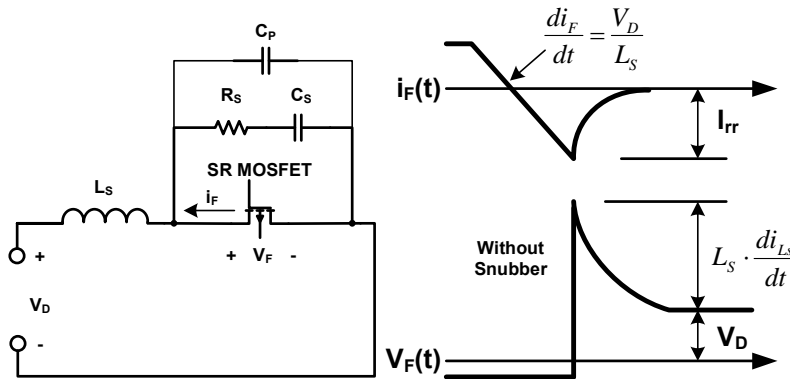
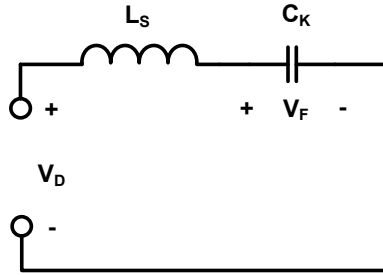

Figure 10 — RC Snubber on SR MOSFET of Flyback Secondary Side
Figure 11 — Simplified Equivalent Circuit for RC Snubber Network ( $R_S=0$ )
Generally, we need a simple RC snubber network putting in parallel to the drain-source of the SR FET, which is responsible for damping the voltage overshoot lead by reverse current through the SR FET, see figure 10.
Figure 10 shows the equivalent model of the Flyback secondary side circuit with an RC snubber on SR FET, where  $V_D$  implies the secondary side voltage derived in equation (3),  $V_F$  is the drain-source voltage on SR FET,  $R_S$  and  $C_S$  forms the RC snubber network while  $L_S$  is the leakage inductance of the transformer secondary winding,  $C_P$  implies the stray capacitance of the secondary side circuit.
In order to simplify the analysis model of  $C_S$  impact on  $V_F(t)$ , consider  $R_S$  as a constant 0, we can get figure 11 and equation (4) as following, where  $C_K$  implies “ $C_S+C_P$ ” in figure 10.
Where  $I_{rr}$  is the peak reverse current through the SR MOSFET, which can be also find in figure 10. From (4), the drain-source voltage through the SR MOSFET  $V_F$  is as follows: